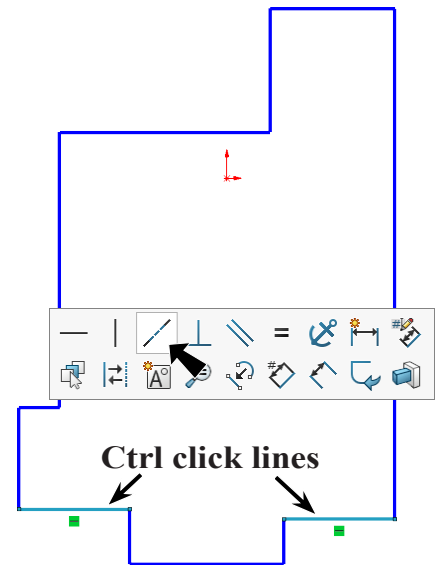

Fig. 3
Step 6. **Ctrl click the two horizontal line at bottom** to select both. Release Ctrl key and click **Make Collinear**  on the context toolbar, **Fig. 3**.